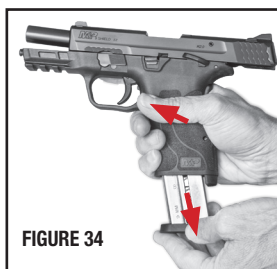

FIGURE 34
- Press the magazine release and remove the magazine (FIGURE 34).